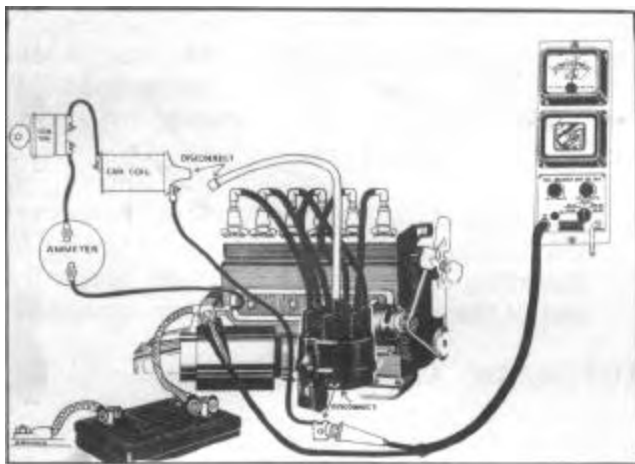

FIGURE 16
2. Disconnect the primary ignition lead at the distributor and the high tension lead from the coil. Connect red lead of Coil Breaker Unit to the primary wire disconnected from the distributor primary terminal, and the ground lead to the battery starter terminal, Figure 16.